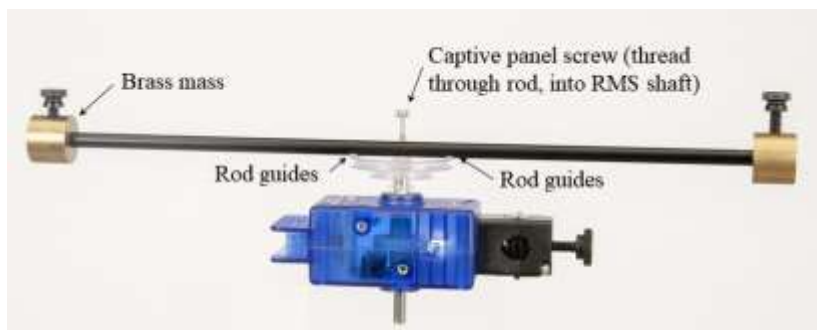

Figure 2: Attaching Pendulum Rod to Pulley & RMS
3. As shown in Figure 2, use the captive panel screw, supplied with the pendulum rod, to attach the rod and 3-step pulley to the RMS. Gently thread this screw through the center of the rod, then through the pulley, and then into the RMS shaft. Make sure the rod is inside the rod guides (see Figure 2) on both sides of the pulley.
4. Attach a brass mass to each end of the pendulum rod, as shown in Figure 2.